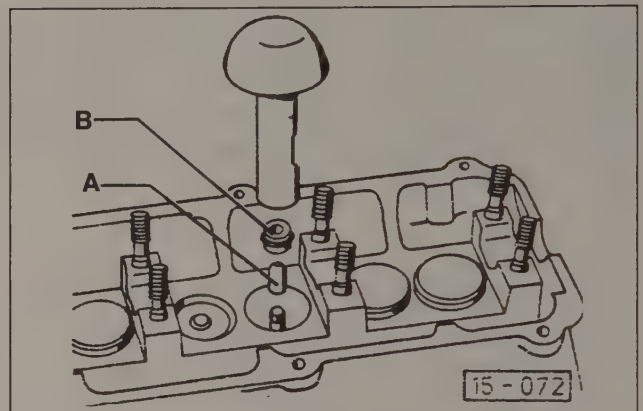

Fig. 4-18. Protective cap **A**, new valve stem oil seal **B**, and installing tool.
5. Install each new valve stem oil seal by temporarily fitting the protective plastic cap over the valve stem end, and then hand-pressing the seal onto the valve stem as shown in Fig. 4-18. Remove the protective cap for use on the next valve.